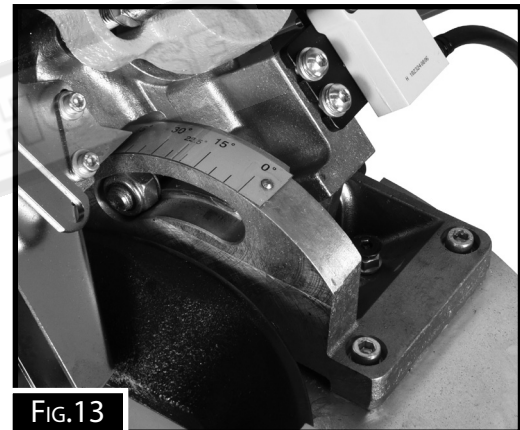

FIG.13
1. Undo the lock screw, (L in Fig.13), at the back of the machine.
2. Using the hand-grip, tilt the saw motor arm to the required angle on the scale next to the hinge. (Fig.13)